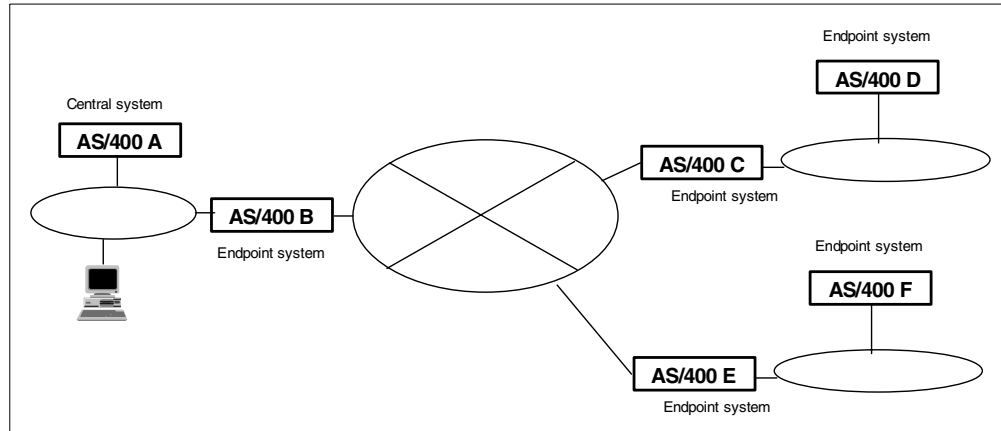

Figure 148. Multiple sites using a switched line
- If you have multiple branch offices that connect with switched lines in your environment as shown in Figure 148 on page 182, you have to separate the AS/400 systems into the system group with different subnets so that the system group has AS/400 systems on the same network (or the same site). Management Central functions communicate with the AS/400 systems in the same group at the same time when you select the system group for a function, such as the files distribution. The central system tries to communicate with the multiple AS/400 systems at the same time. However, in this scenario, you have only one line for the central system. If the central system site dials to one endpoint system group (AS/400 C and AS/400 D in Figure 148), you cannot dial to another site (AS/400 E and AS/400 E in Figure 148). You have to use Management Central functions serially for each system group.